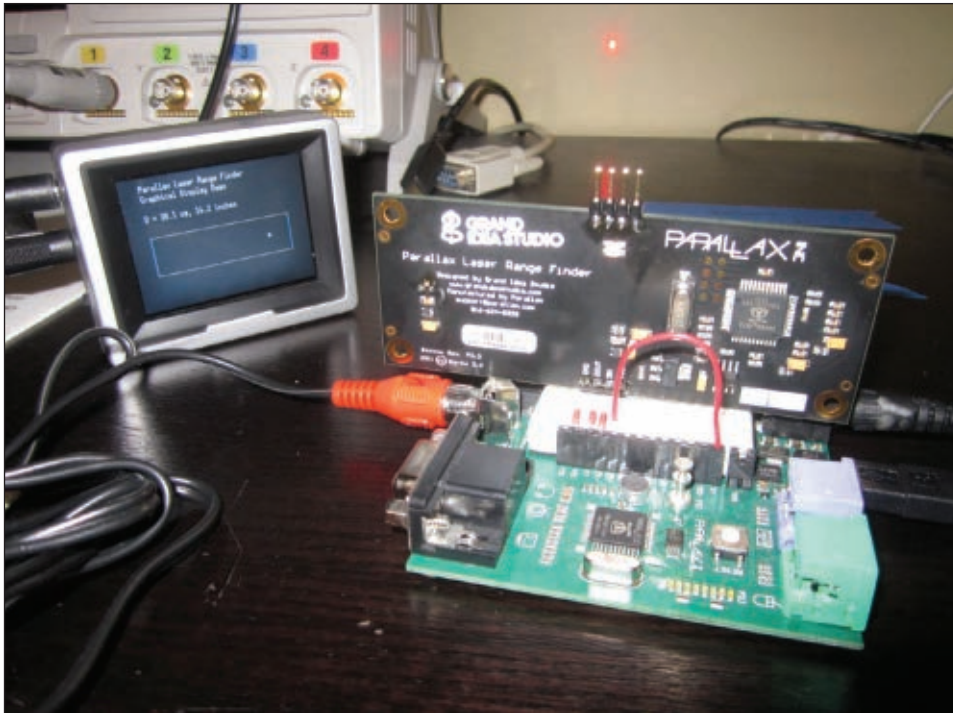

FIGURE 7. Demo — Propeller Graphical.
- **Graphical Interface.** Using the Propeller as a host (a separate Propeller, not the one onboard the LRF module), the distance between the LRF and the target object is displayed in text and graphical form via composite video output (**Figure 7**). Video: www.youtube.com/watch?v=MqYRM6calOI.